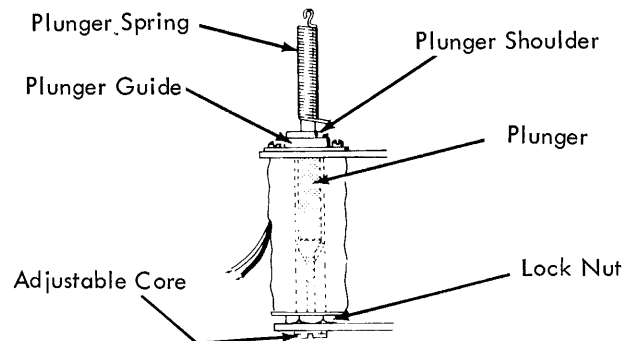

FIGURE 55. Solenoid
1. Solenoid (Fig. 55) - Adjust as follows:
- b. With the plunger engaged, screw adjustable core "in" until the plunger shoulder begins to lift off the plunger guide, then back off  $1/2$  turn (Fig. 55).